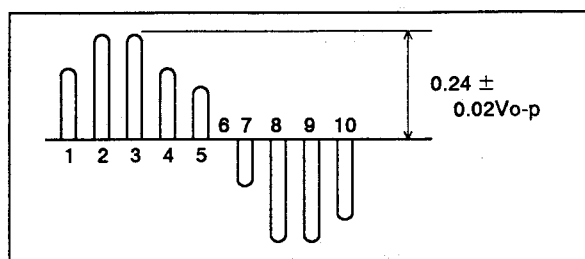

Fig. 21
6. Adjust R4838 (Sub Colour) so that the level is $0.24 \pm 0.02V_{o-p}$. (See Fig. 21)